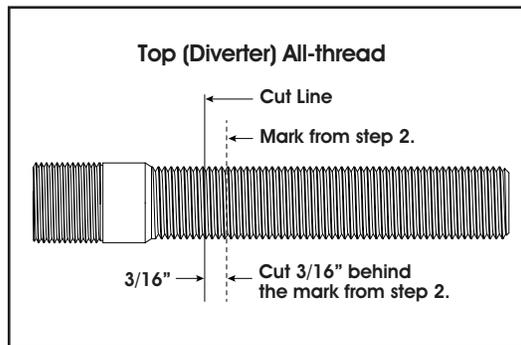

FIG. 4d
4. The (diverter) allthread needs to be cut 3/16" behind your mark from step 2 so all-thread will be 3/16" behind trim plate when fully installed. FIG 4d.